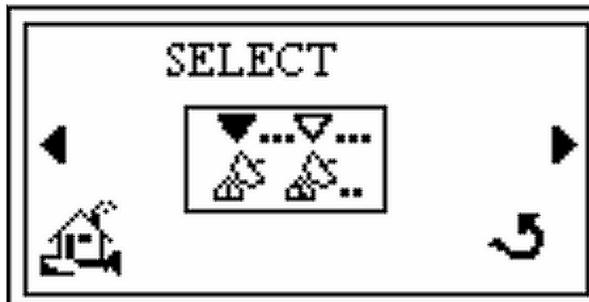

Figure 2-29 Select Screen
4. Press **Enter** and the *Select* screen appears (Figure 2-29).